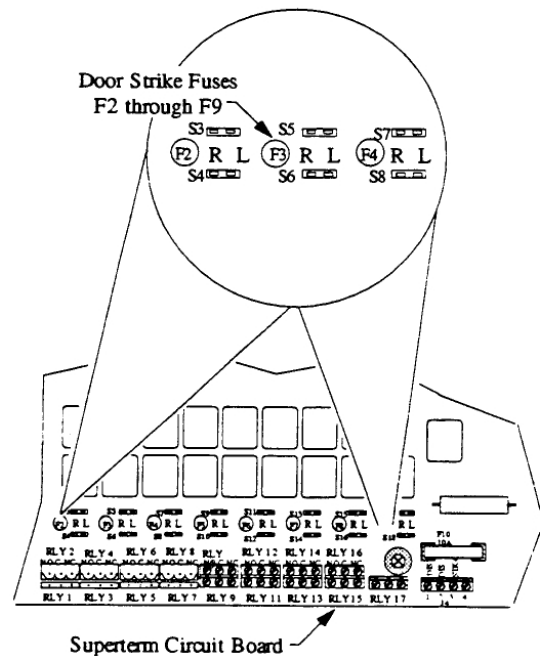

Figure 52 - Door Strike Fuse Location
Eight 2-ampere (2A) slow-blow fuses protect the door strike relays. These fuses are located in line across the lower center surface of the Superterm circuit board (see Figure 52).
- 2) Locate the faulty door strike fuse (F2 - F9) (see Figure 52).